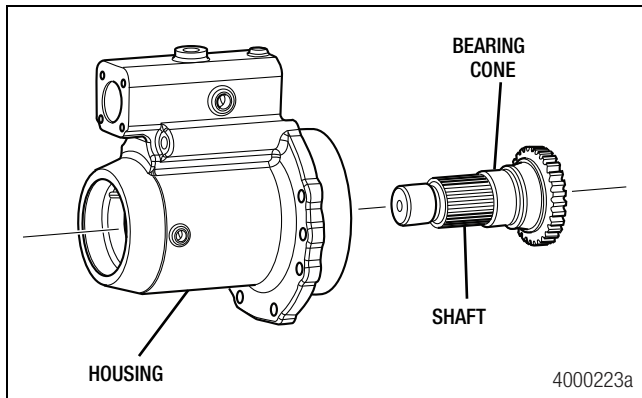

Figure 8.9
- b. Preheat the first bearing cone to 200°F (93°C) using an oven or inductive bearing heater. Do not use flame heat. Support the shaft and slide the heated cone in place onto the output shaft. Figure 8.9.